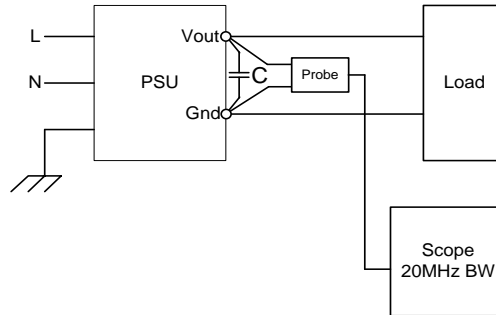

Figure 15. Differential Noise Test Setup
- a) Outputs bypassed at the point of measurement with a parallel combination of 10µF tantalum capacitor in parallel with 0.1µF ceramic capacitors, referring the setup in Figure 15